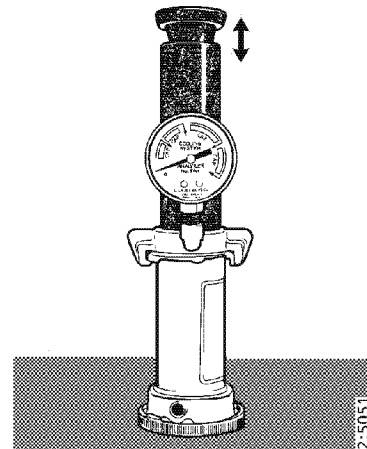

Figure 7-3
2. Pump until the cap opens (Figure 7-3).